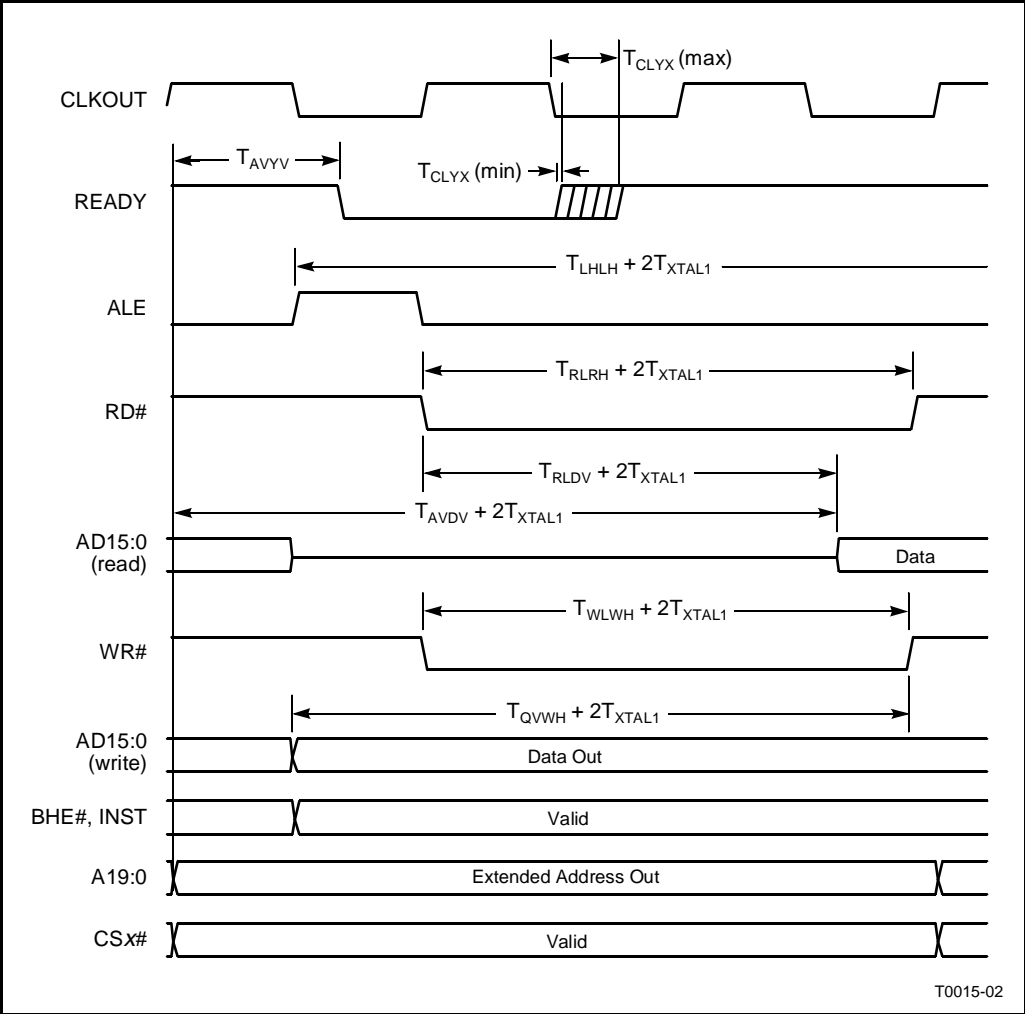

Figure 9. READY Timing Diagram (Demultiplexed Bus Mode)
2. Added Table 3 and Figure 9.